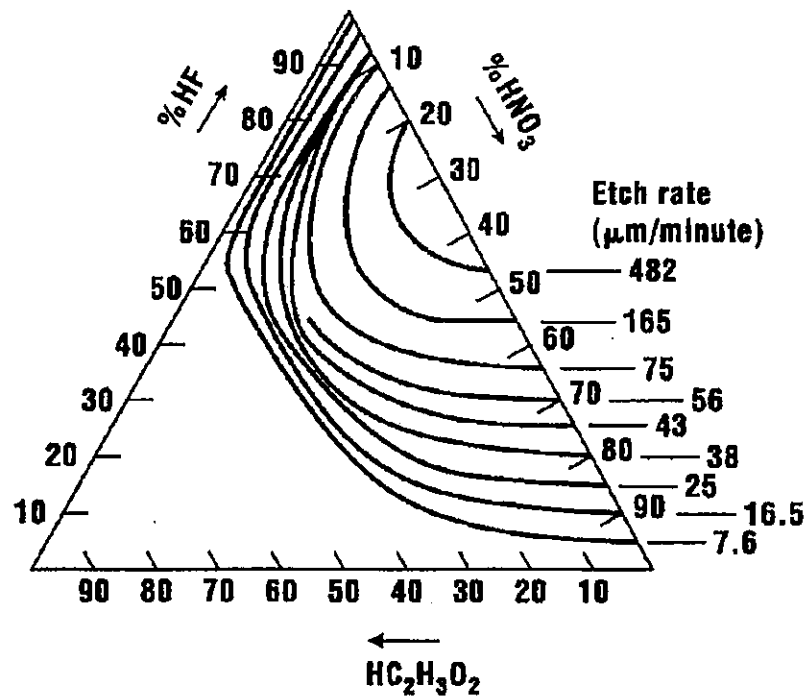

Figure 1
- (e) Figure 1 on page 5 shows the isoetch curve for silicon using the HF:HNO₃:diluent system. A hole must be wet etched through a silicon wafer that is 500 μm thick. The solution for the etch is a mixture of two parts of HC₂H₃O₂, two parts of HF and six parts of HNO₃. How long would the etch take?